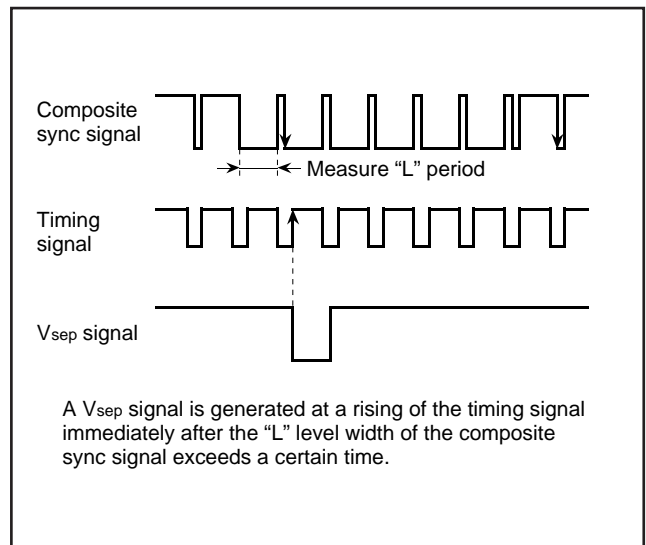

Fig. 33. Vsep Generating Timing (method 2)
- Method 2 The "L" level width of the composite sync signal is measured. If this width exceeds a certain time, it is detected whether a falling of the composite sync signal exits or not in the "L" level period of the timing signal immediately after this "L" level. If a falling exists, a V_{sep} signal is generated in synchronization with the rising of the timing signal (refer to Figure 33).
Figure 33 shows a V_{sep} generating timing. The timing signal shown in the figure is generated from the reference clock which the timing generating circuit outputs.